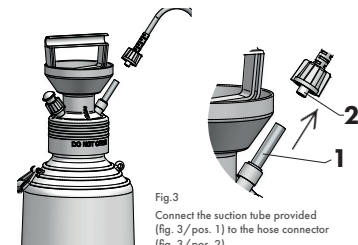

Fig. 3
Connect the suction tube provided (fig. 3/pos. 1) to the hose connector (fig. 3/pos. 2).